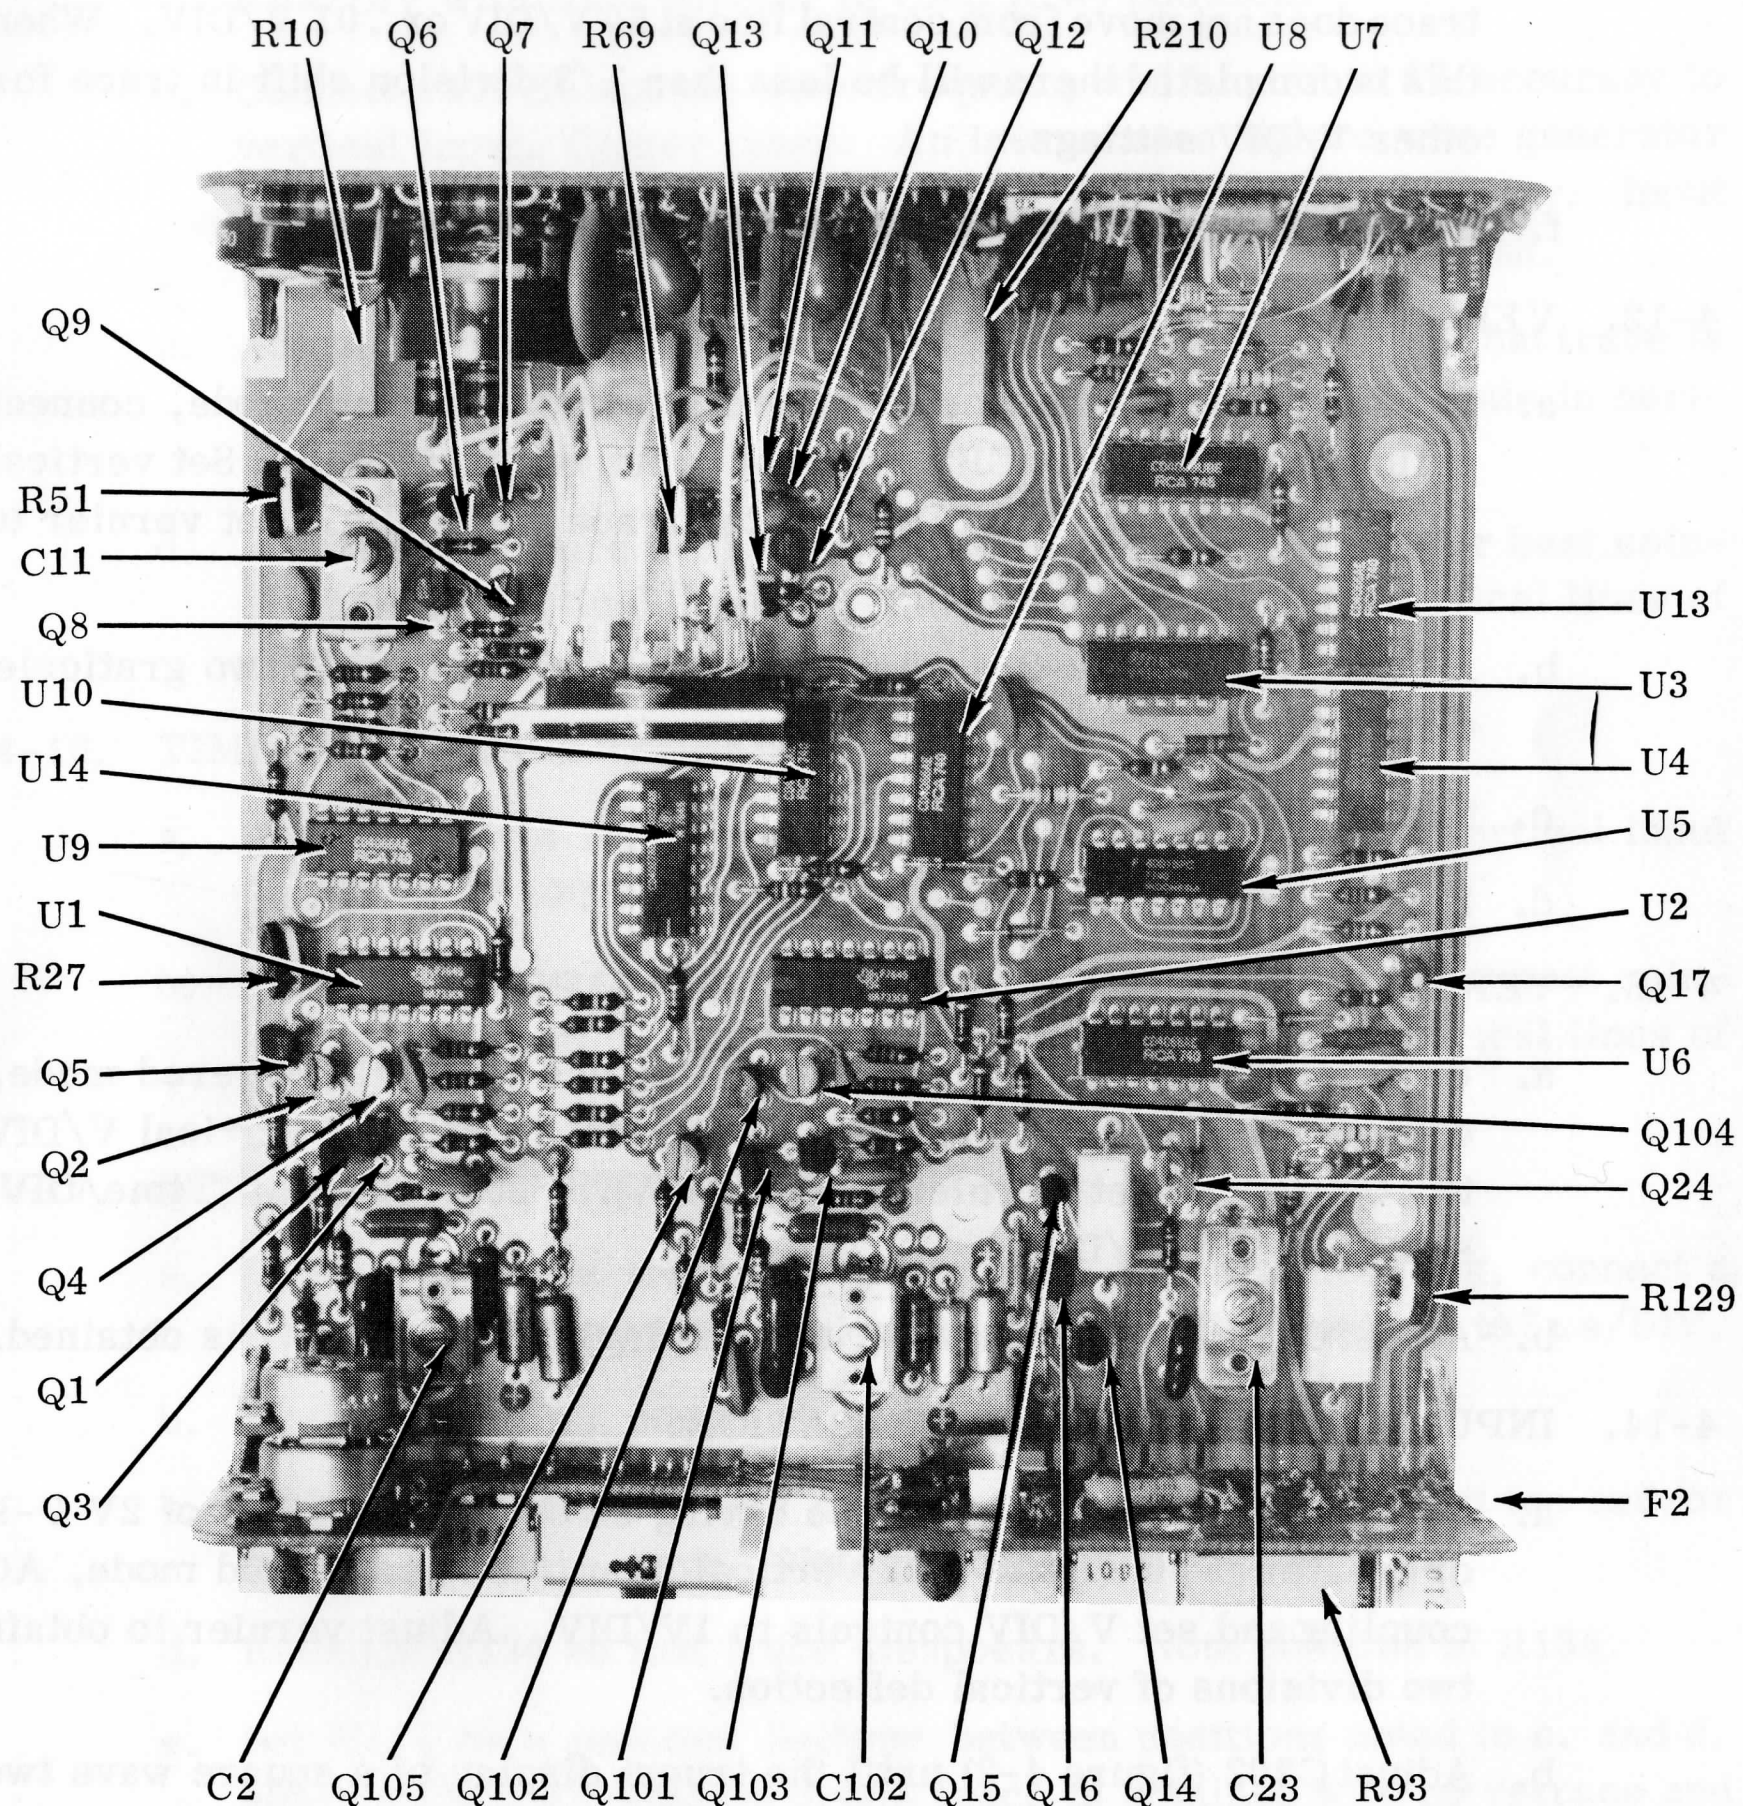

Figure 4-2. Component Location - Main Board
- b. Center trace on screen and adjust R129 (figure 4-2) so that calibrator output is exactly 1 VP-P.
- a. Using AC vertical input coupling and internal triggered mode, connect calibrator output to CH2 vertical input of Miniscope. Set vertical V/DIV controls to .5V/DIV. Center trace vertically. Set vernier to CAL (CW).
- b. Adjust R51 (figure 4-2) so that trace amplitude is exactly two graticule divisions high.
- d. Repeat step 4-12b using R27 (figure 4-2).
- a. Using CH2 AC vertical input coupling and internal triggered mode, connect a 100 KHz square wave to vertical input. Set vertical V/DIV to .5V/DIV. Set vernier to CAL (CW). Set Horizontal (Time/DIV) switches to 5 μ s/DIV.
- b. Adjust C11 (figure 4-2) until truest display of a square wave is obtained.
- b. Adjust C202 (figure 4-2) until the truest display of a square wave two divisions high is obtained.
- d. Repeat 4-14b using C2 (figure 4-2).
- a. Use internal trigger mode and AC vertical coupling. Set time/DIV to $5 \mu\text{s}/\text{DIV}$ with time vernier in CAL (CW) position.
- c. Adjust R69 (figure 4-2) and horizontal position control so that trace is approximately $1/32$ inch longer than five divisions of graticule in horizontal direction.
- d. Adjust R93 (figure 4-2) and horizontal position control for best coincidence of vertical lines of square wave trace with vertical lines of graticule.
- b. Adjust C23 (figure 4-2) and horizontal position control for best coincidence of vertical lines of square wave trace with vertical lines of graticule.
5-11. If the power indicator does not light and there is no trace when operating from batteries alone, but there is an erratic appearing trace when operating from the charger/transformer then the problem is very likely a blown fuse. The fuse (F2 - figure 4-2), if not defective, will measure less than 0.1 ohm. If after replacement the fuse blows again, then the problem is in the +5.75 VDC regulator between the batteries and the DC/DC converter. The +5.75 VDC regulator should use less than 50 mACD unloaded. The regulator can be unloaded by cutting the printed circuit line between it and the DC/DC converter. Two extra holes have been provided in the printed circuit for a jumper to repair the cut. If the regulator is functioning properly, then check the +5 VDC line on the main board and the rectifiers and loads on the secondaries of the DC/DC converter. Also check the switching transistors on the input of the DC/DC converter. If these tests do not uncover a fault, the DC/DC converter transformer is probably defective.
5-17. With the vertical input grounded, if the trace or spot is visible when the vertical deflection plates (pins 9 & 11) are shorted together and disappears when the short is removed, the vertical amplifier is in a state of DC unbalance. To determine where the problem is measure the differential voltage at the output of the second amplifier (pins 7 and 8 of U1 - figure 4-2). If it can be adjusted to ± 2 VDC with the front panel vertical position control, then the problem is
in the deflection amplifier output stage. If the voltage cannot be adjusted as specified, measure the voltage at the output of the first amplifier (collector of Q3 - figure 4-2). If it is within 0.01 VDC of ground, then the problem is in the second amplifier. If it is not as specified, then the problem is in the first amplifier. If the problem is incorrect gain use signal tracing techniques to locate the problem.
5-21. If a problem exists in one or more positions of the Trigger Mode switch but not all, then the switch itself or associated networks are at fault. If a problem exists in all positions, then the fault lies with either the source follower (Q24 - figure 4-2), the Schmitt Trigger (U4 - figure 4-2) or slope selector (U14). Check the output of the source follower. If it exhibits approximately unity gain, the problem is in the trigger or slope selector. If the source follower does not have unity gain then it is the problem.
5-23. If there is no horizontal sweep and the time base trigger is not at fault, then the time base generator is at fault. If the sweep works in some settings and not in others then the switching or the associated networks are at fault. If the sweep does not work at all, the constant current source can be tested by disconnecting the output collector lead (Q14 - figure 4-2) and measuring the current to ground. The gates in the astable multivibrator (U5 - figure 4-2), transmission gate (U6 - figure 4-2) and the flip-flop (U3 - figure 4-2) can be checked by examining their input versus output relationships.